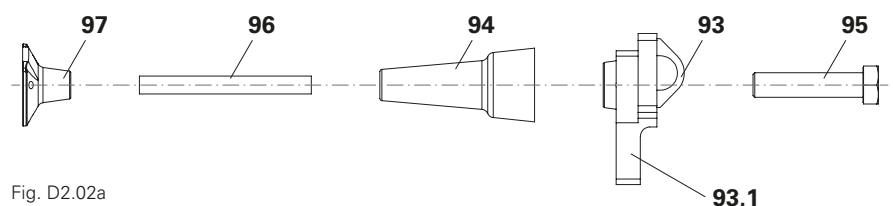

Fig. D2.02a
⇒ Mount the Anchor Sliding Piece-2 M36/12 (93) with the spigot (93.1) facing downwards. (Fig. D2.02a + D2.02c)